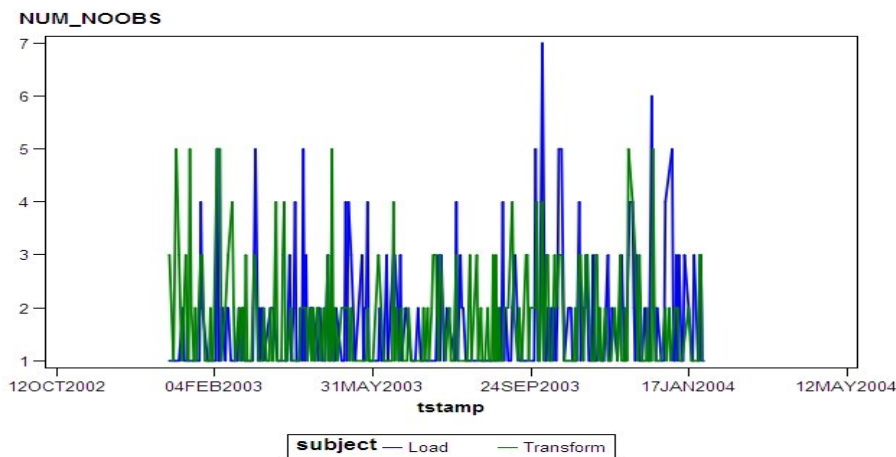

FIGURE 9
- FIGURE 9 shows how many TAEvents of type NO_OBS were created across time, broken out by batch subject.